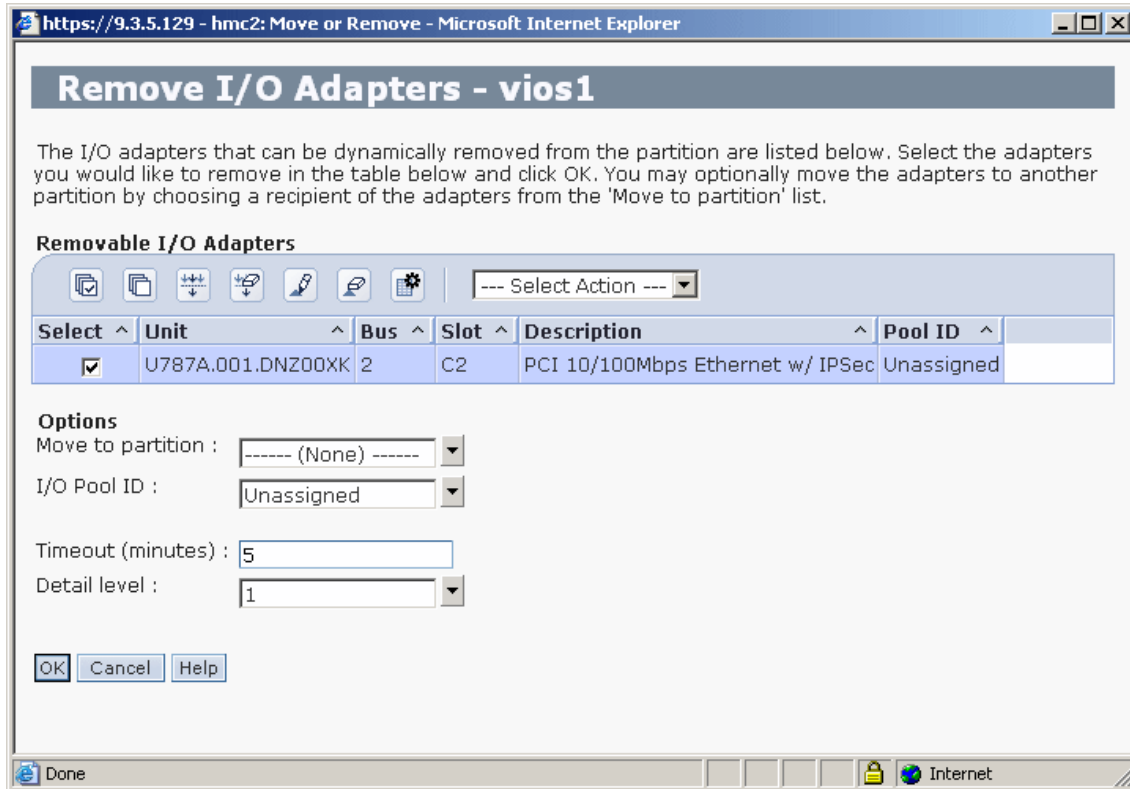

Figure 12-16 Selecting the physical adapter to be removed
2. Select the adapter that you want to delete and do not select any partition in **Move to partition** selection box as shown in Figure 12-16.